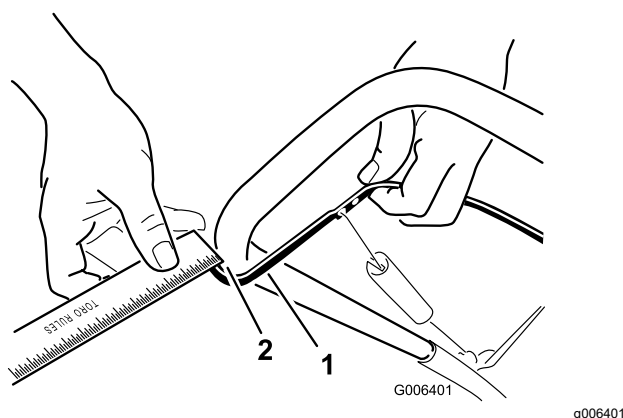

Figure 16
Move the control bar back toward the handle to remove the slack in the control cable (Figure 16).
Note: Ensure that a 2 to 3 mm (1/16 to 1/8 inch) gap exists between the control bar and the handle (Figure 16).
2. Move the Z-fitting to a higher or lower hole on the adjuster link as needed to obtain the 2 to 3 mm (1/16 to 1/8 inch) gap between the control bar and the handle (Figure 16).